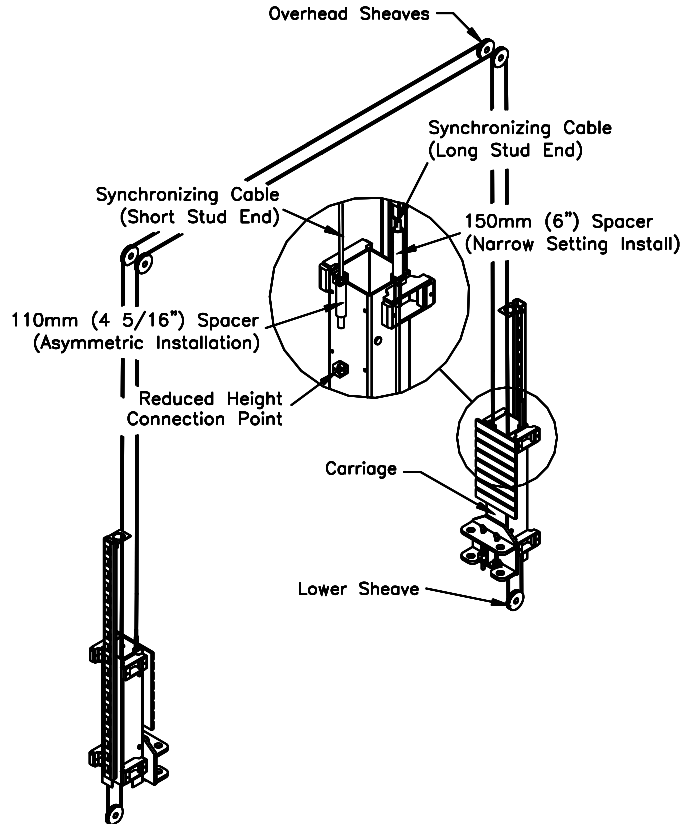

Fig 11a – Synchronizing Cables
- 19) Attach one end of synchronizing cable to carriage. See **Fig 11a** for proper attachment.
- 20) Route cable up and over sheave in overhead. Follow across to other sheave on opposite column. Route down through carriage to sheave in bottom of column. Route under sheave and up to cable attachment. Use **Fig 11a** for proper attachment.